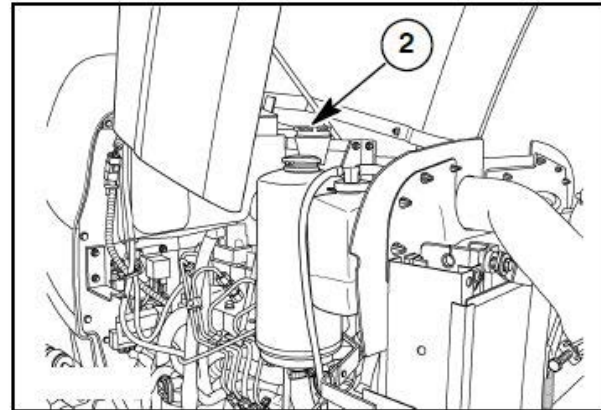

Figure 3-4
2. If the oil level is low, remove the filler cap (2) in Figure 3-4, and add oil through the filler hole. Add enough oil so that the level registers between the two marks on the dipstick. Do not overfill.